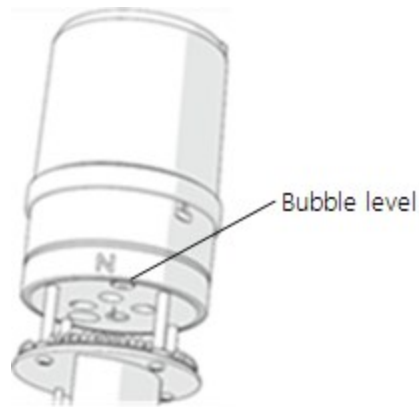

FIGURE 7-4. Bubble level on the ClimaVUE 50
4. Use a torpedo level or the bubble level underneath the sensor to level it (FIGURE 7-4 (p. 17)). The angle of the instrument mount may need to be adjusted if the mast is not vertical. Shims can be added between the top of the mast and the bottom of the ClimaVUE 50 to achieve level. The sensor must be within $\pm 2^\circ$ of dead level (0, 0) in both the X and Y directions to accurately measure rainfall and solar radiation. The $\pm 2^\circ$ can be confirmed by viewing the Tilt North(+)/South(-) and Tilt West(+)/East(-) orientation values returned by the **R7!** command.